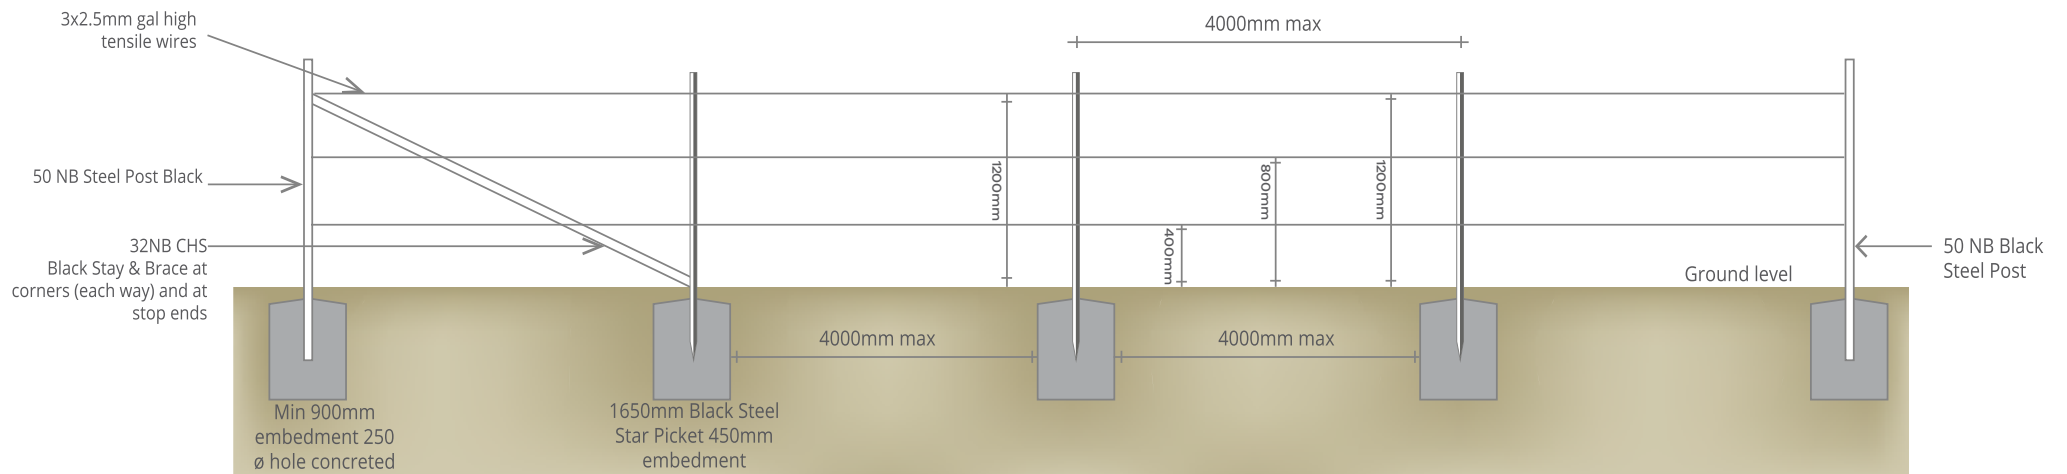

Figure 6.1: E2 zone fence to side and rear boundary - Black steel, post, stay and star picket with 3 strand plain wire. Mandatory if erected.
- In E2 zone side and rear boundary fences, if permissible, are to be 3 strand plain wire with the bottom strand at 400mm & the top strand at 1200mm with a third wire between. Post, stay and star pickets are to be of black steel material only. No trees can be removed or mechanical equipment used to install fence. Mandatory if erected. Refer figure 6.1